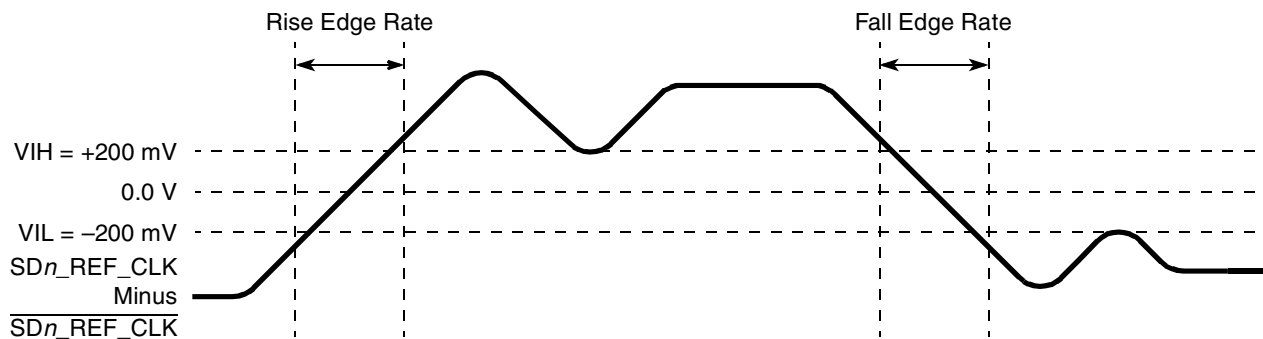

Figure 60. Differential Measurement Points for Rise and Fall Time
The differential waveform is constructed by subtracting the inverting signal ($\overline{SDn_TX}$, for example) from the non-inverting signal (SDn_TX , for example) within a differential pair. There is only one signal trace curve in a differential waveform. The voltage represented in the differential waveform is not referenced to ground. Refer to Figure 60 as an example for differential waveform.
3. Measured from –200 mV to +200 mV on the differential waveform (derived from $\overline{SDn_REF_CLK}$ minus $\overline{SDn_REF_CLK}$). The signal must be monotonic through the measurement region for rise and fall time. The 400 mV measurement window is centered on the differential zero crossing. See Figure 60.